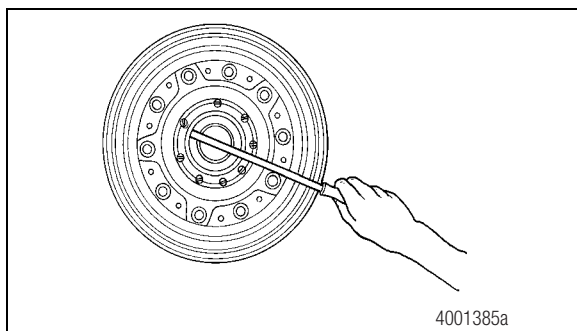

Figure 3.10
4. The wheel seal is in a seal retainer. If you are only removing the oil seal, use a long screwdriver to remove the oil seal from the hub. Discard the old seal. Figure 3.10.